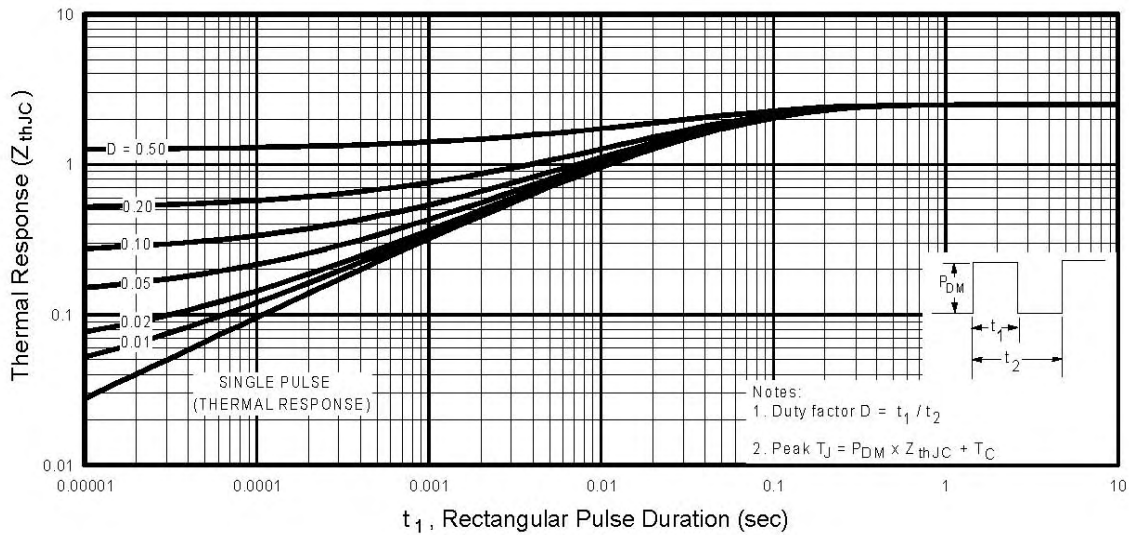

Fig 11. Maximum Effective Transient Thermal Impedance, Junction-to-Case
- ① Repetitive rating; pulse width limited by max. junction temperature. (See fig. 11)
- ② $I_{SD} \leq 5.2A, di/dt \leq 95A/\mu\text{s}, V_{DD} \leq V_{(BR)DSS}, T_J \leq 150^\circ\text{C}$
- ③ $t = 60\text{s}, f = 60\text{Hz}$